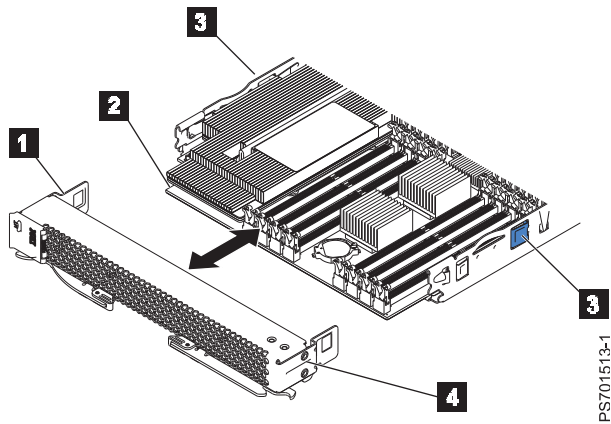

Figure 20. Installing the bezel assembly
1. Connect the control-panel cable (**1** in Figure 20) to the control-panel connector (**2**) on the system board.